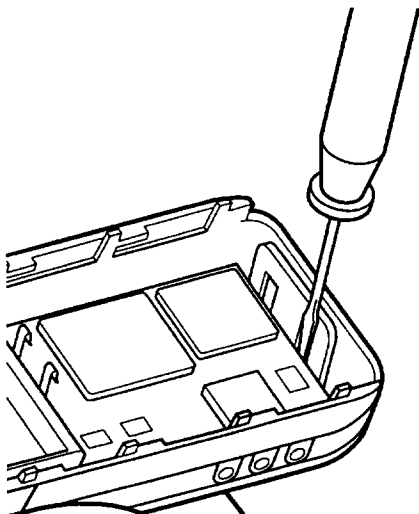

Figure 1-6. Remove Main Board
- 1A. For **Compact** models carefully insert a screwdriver between opening of flexible wall of housing and mainboard and gently pry until main board lifts up (Figure 1-6).